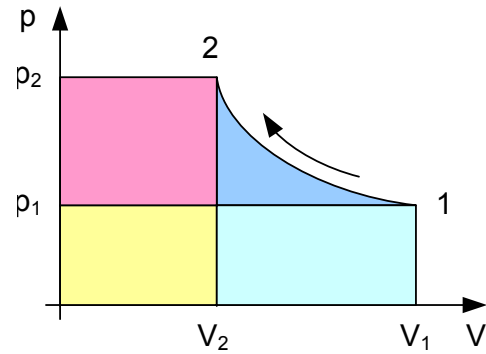

Figure 6.12: pV chart
Each compression process (polytropic, isentropic, isothermal etc.) follows a (similar but not the same) curve the pV chart (see figure 6.12) from the start (1) to the end (2) point. Adding the different process areas shown in the pV chart gives: